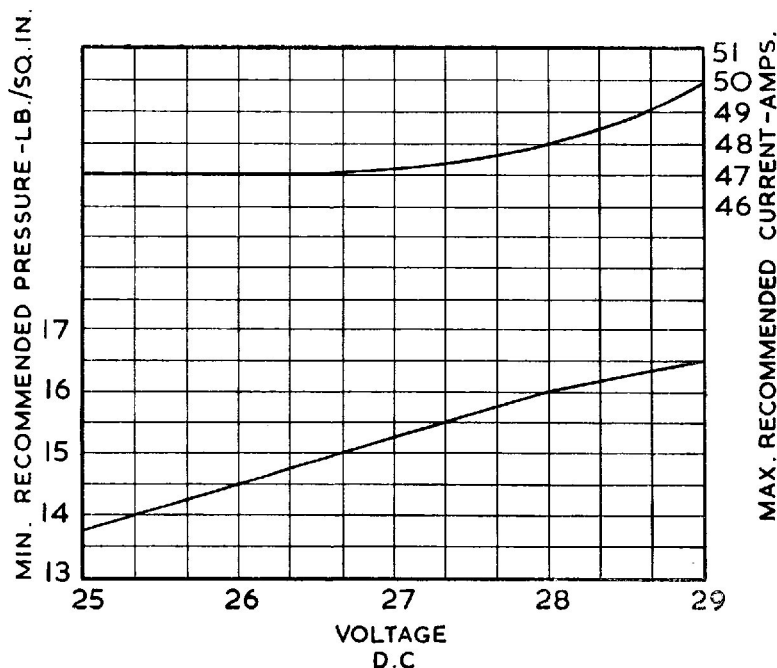

Fig. 3. "No fuel flow" electrical test graph
- (1) A steady reading not exceeding that indicated by the graph (fig. 3) for the measured applied voltage, indicates that the motor unit is functioning satisfactorily.
*The graph (fig. 3) is provided as a guide to pump performance under 'no flow' conditions. The figures derived from it are not to be interpreted as forming part of the approved Acceptance Test Specification for the pump.*
- (2) Current consumption in excess of the graph reading indicates either a faulty motor unit, a rise in torque loading due to the obstruction of moving parts, or a restriction of the fuel flow.
- (3) A fluctuating reading indicates faulty contacts, defective brushes, faulty commutation or that bearings or other rotating parts are binding.
- (4) A zero reading indicates an open circuit and is consistent with a blown fuse, defective switch, faulty wiring or complete motor failure.